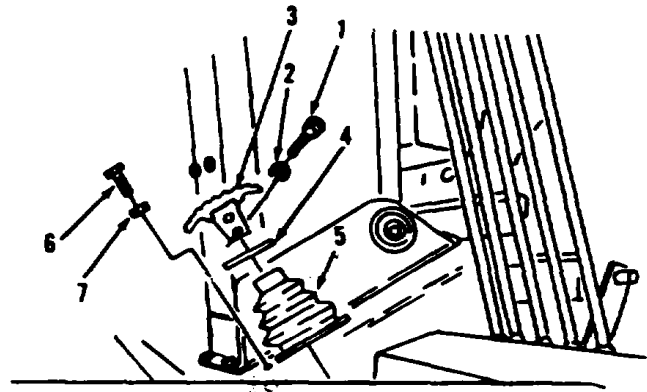

Figure 6-14.
1. Remove two bolts (1), washers (2), thread (3), washer (4) and boot (5, Figure 6-14) from right side of cab floor.
2. Remove setscrew (6) and nut (7) from base.